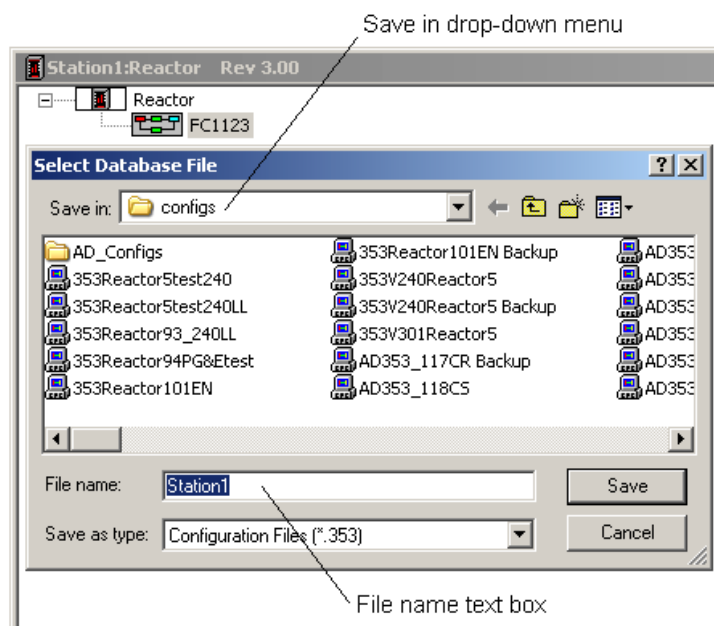

Figure 6-6 Select Database File dialog for saving a new configuration
1. Click the **Save** button on the **Standard** toolbar. The Select Database File dialog displays. See Figure 6-6.